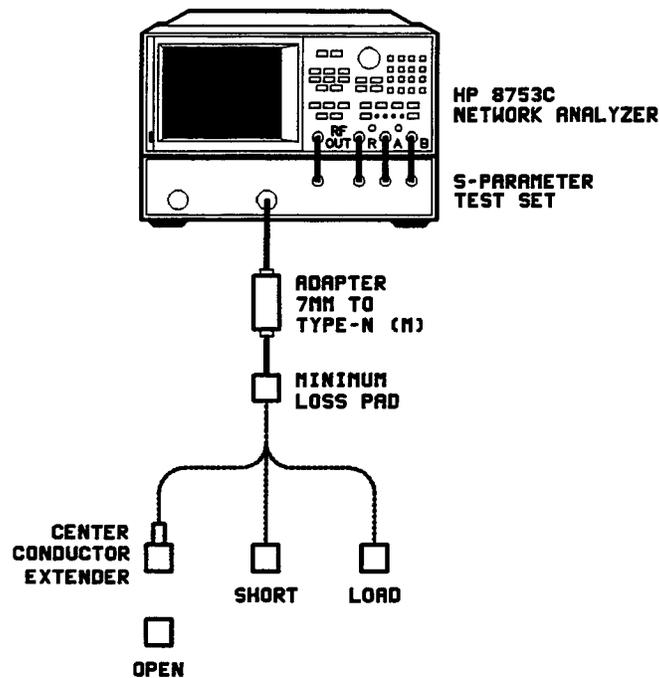

Figure 3-4. Equipment Setup for a S22 1-Port Measurement Calibration
5. When prompted, connect the standards as shown in Figure 3-4.